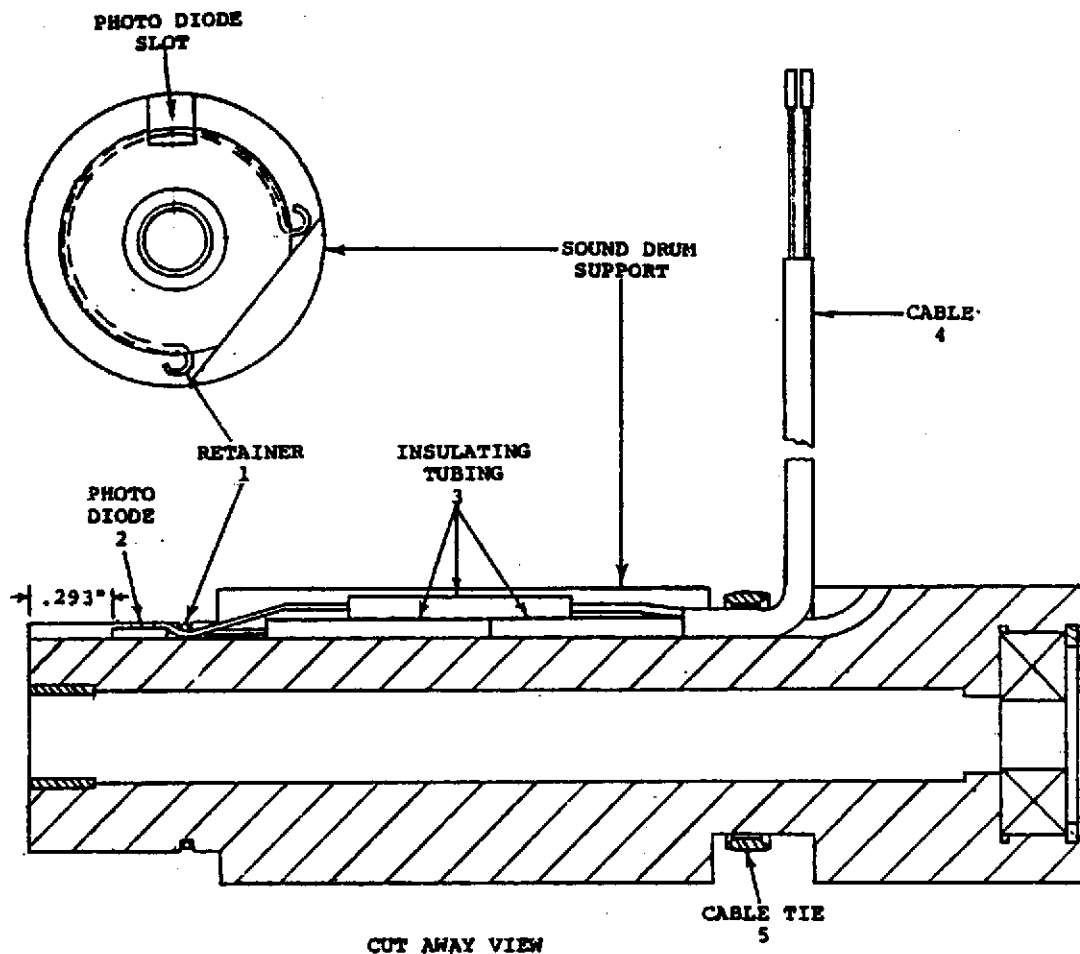

Figure 3-83. REPLACING PHOTO DIODE CHIP IN SOUND DRUM SUPPORT
- b. Remove the Retainer (1) and the Photo Diode (2) out of the slot. Clip the leads and discard the Diode. (Figure 3-83)
- c. Remove the Insulating Tubing (3) and unsolder the remaining portion of the Diode leads.
- e. Position a new Photo Diode into the slot with the shiny, black surface up (red wire) and the end aligned with the mark made in Step 1. Assemble the Retainer (1) to hold the Photo Diode in place, orienting the Retainer as shown in Figure 3-83. Make sure the Photo Diode is perfectly flat in the slot. (The end of the Photo Diode should be .293" --about 9/32"-- from the end of the Sound Drum Support.) **THE PHOTO DIODE IS VERY FRAGILE. BE VERY CAREFUL NOT TO BREAK IT!**